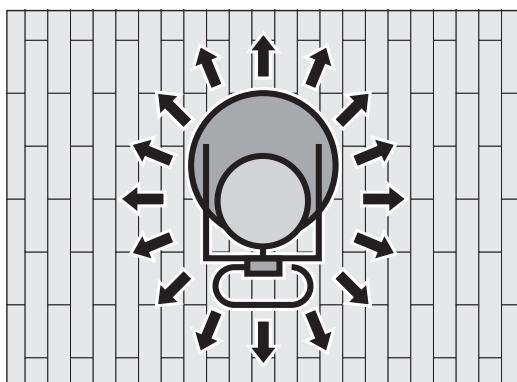

Fig. 23 Sanding directions using the TRIO.
- No particular sanding direction has to be followed (fig. 23).